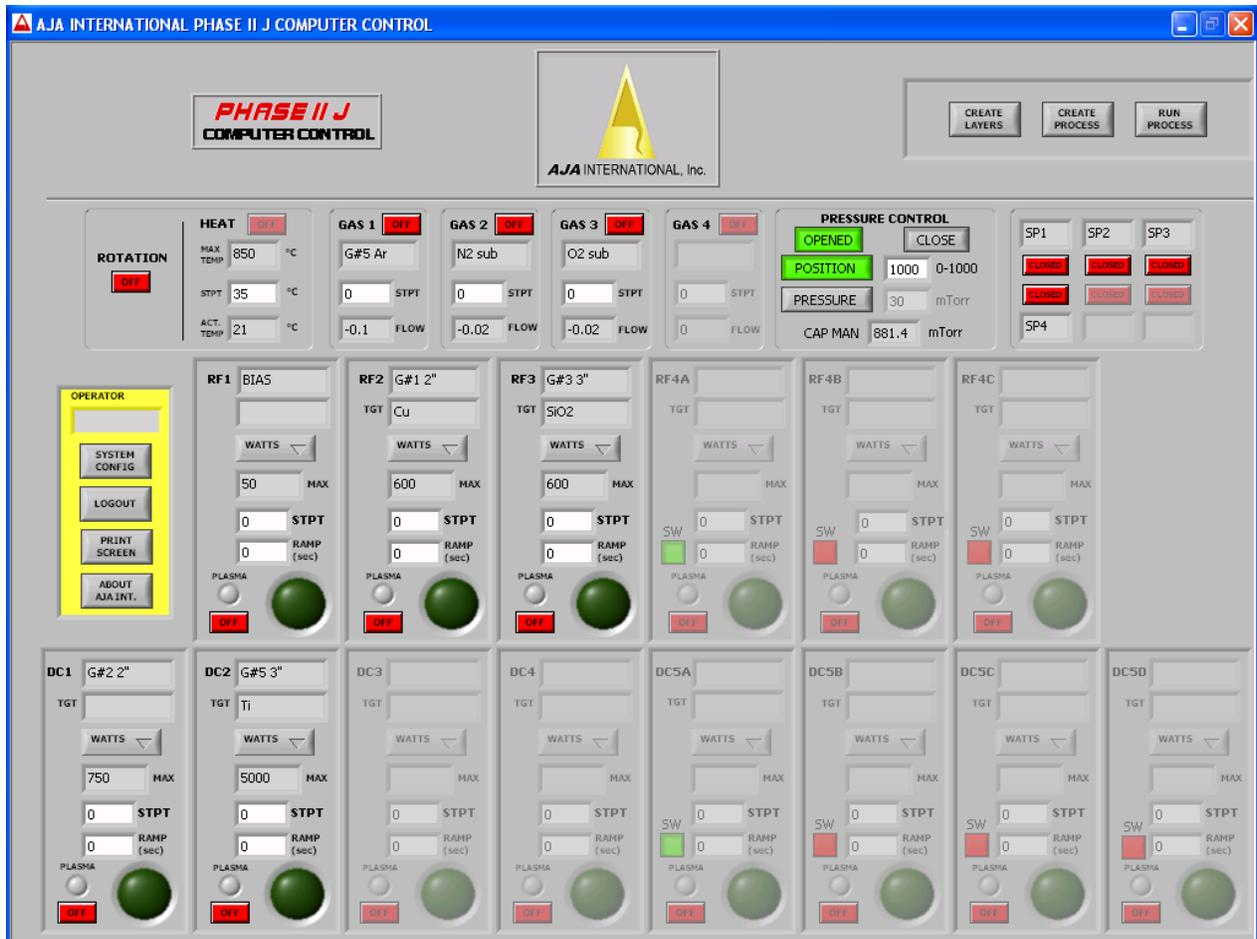
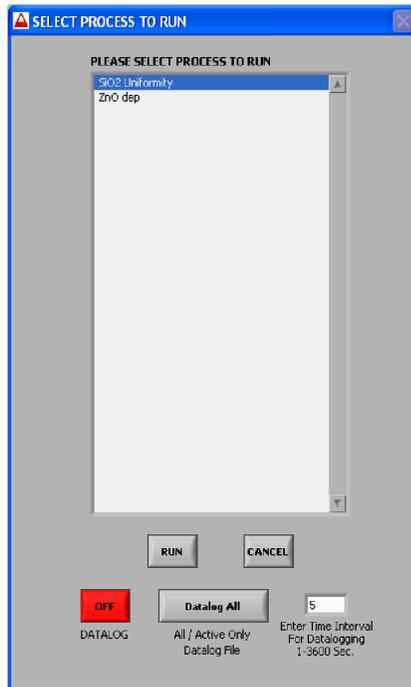

Figure 8: Main Screen.
Figure 11: Run process window.
All gases and plasma must be off before attempting to vent the chamber as displayed on laptop screen (Figure 8). Follow the procedure below that applies.
Deposition can be done in a manual mode or by running a recipe. All this is done through the software on the laptop. The main software screen is shown in Figure 8. The explanation of the screen starting from its top left is given below:
- h) DC5A and DC5B: DC5A and DC5B guns share a 750W DC supply. DC5A uses 3" targets and DC5B accommodates 2" target. **Maximum powers for DC5A and DC5B are 200 W and 75 W, respectively**. To switch between DC5A and DC5B, click on the 'SW' button shown in Figure 8. Green means enabled.
Recipes are created by clicking on the Create Layer button on the top right of main screen (Figure 8). A process consists of one or more layers. For dielectric targets, a plasma strike layer is needed before the deposition layer. It strikes the plasma at a higher pressure (30 mT) then the deposition layer lowers it to the deposition pressure and opens the shutter. If multiple layers need to be deposited, they can be added to the process.
- g) When finished with creating layers, clicking close will take you to main screen (Figure 8).
- j) Click RUN PROCESS on the main screen (Figure 8). The window shown in Figure 11 will appear. Click DATALOG to activate it. Enter the time interval (5 sec generally). Now clicking Run will execute the process. Datalog files are stored under the password folder (generally password1) in Phase II folder.